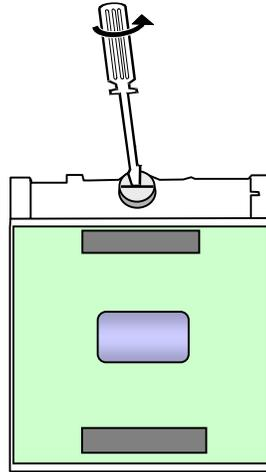

Figure 2-23 Remove the CPU from socket
5. Loosen the screw by a flat screwdriver, upraise the CPU socket to unlock the CPU. (See Figure 2-23)